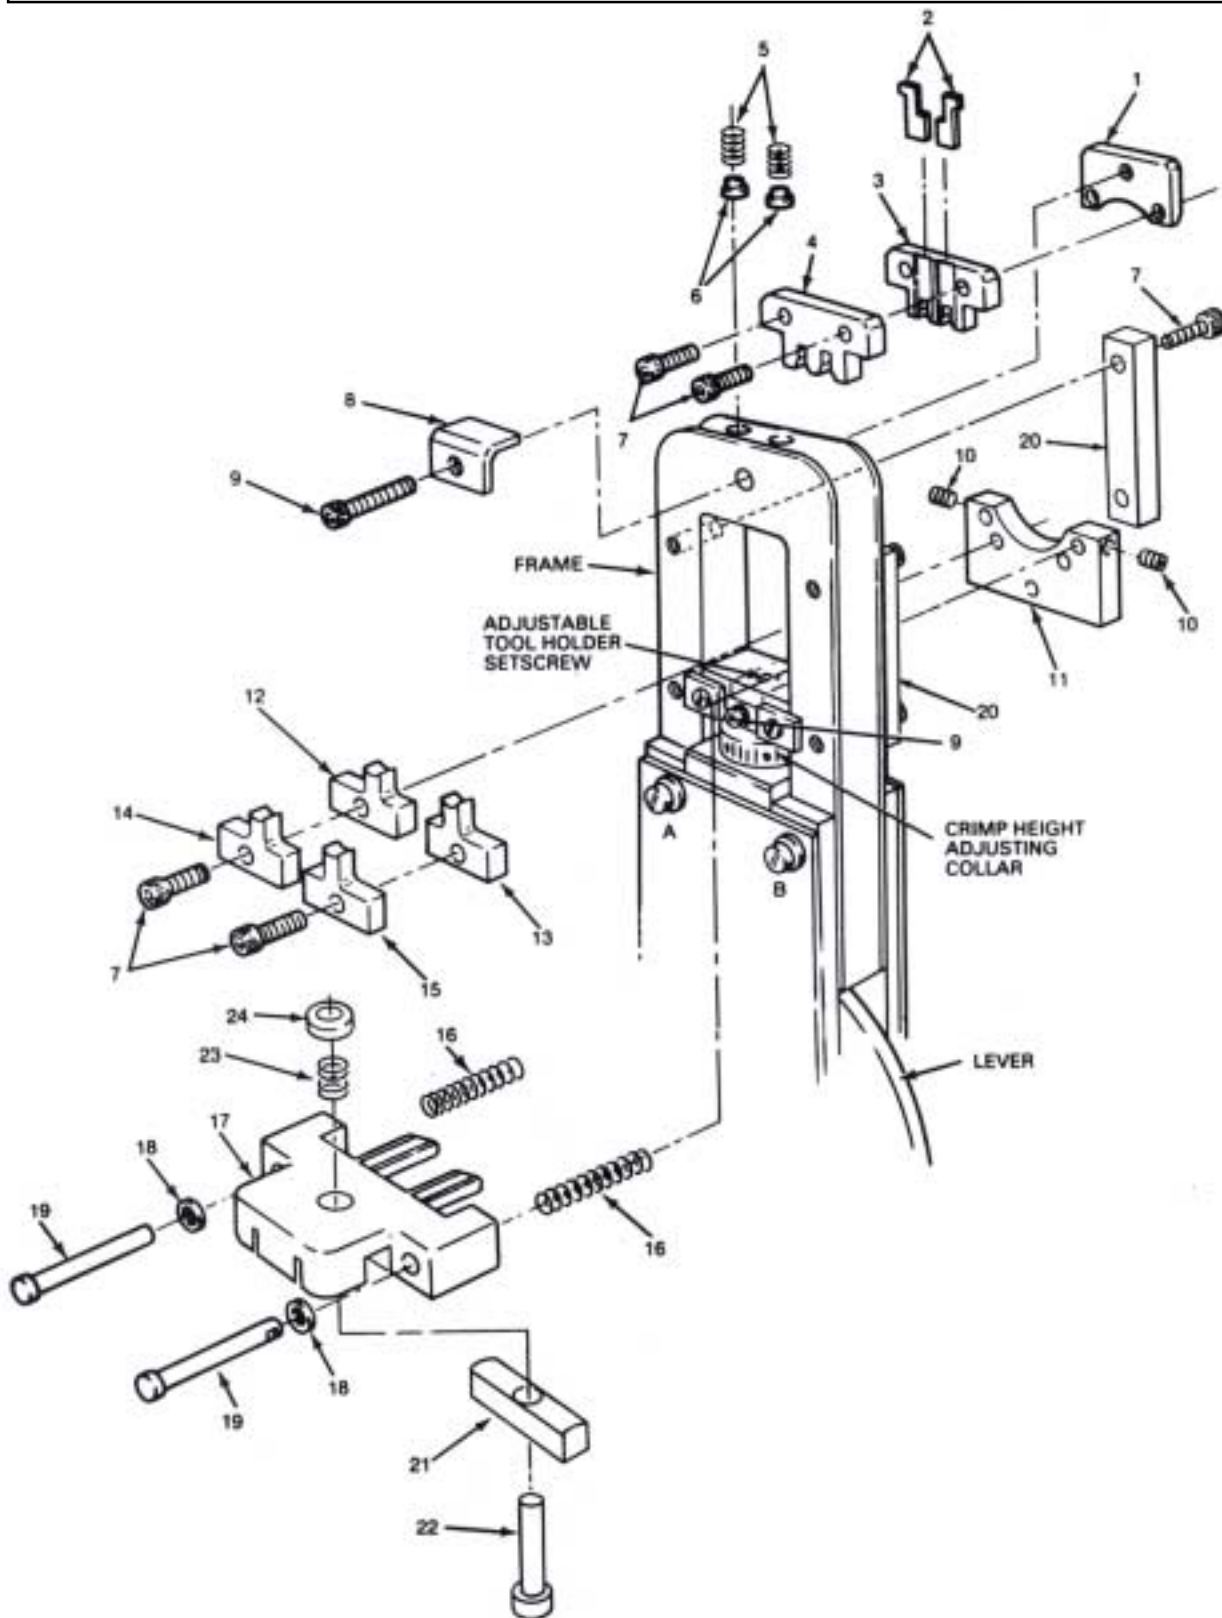

Figure 13. HT-0102 Hand Tool Parts
B. Wire and Insulation Barrel Crimpers and Tonker Replacement (see Figure 13)
These are parts that FCI Electronics considers practical for the user to stock for replacement. Recommended spare parts for the hand tool are specified in bold type in the parts list for Figure 13.
Parts List for Figure 13, HT-0102 Hand Tool Parts